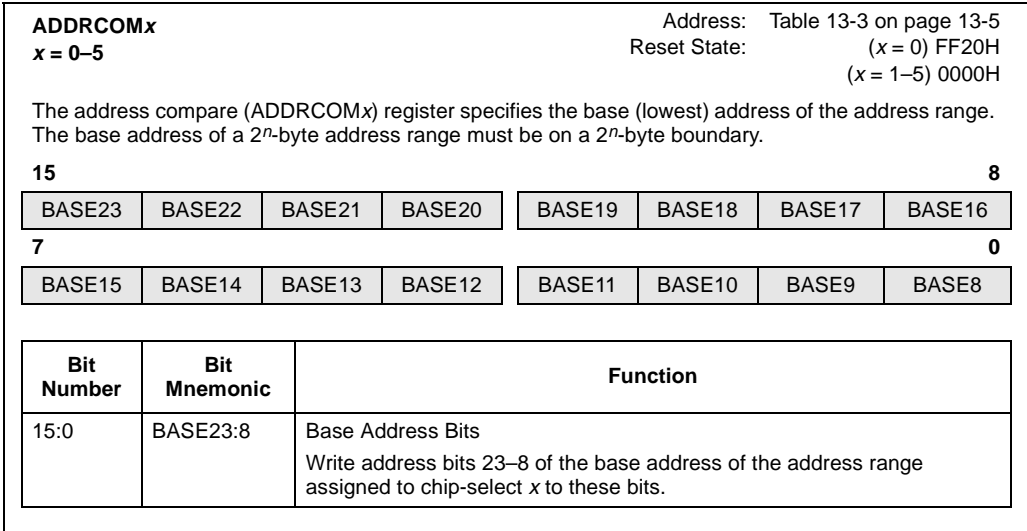
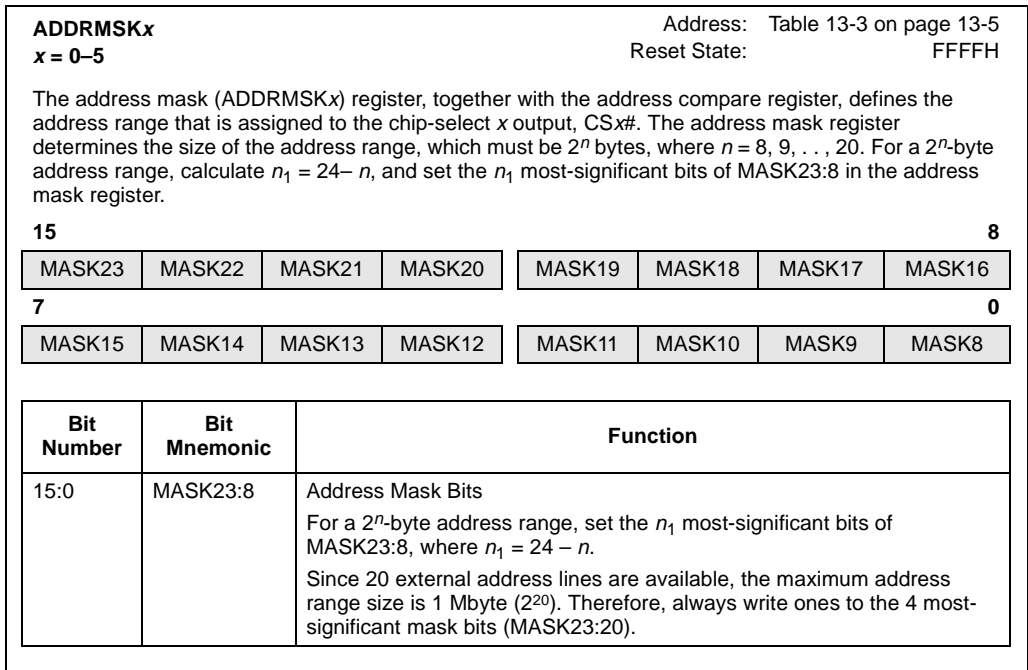

Figure 13-2. Address Compare (ADDR_{COM}_x) Registers
Figure 13-3. Address Mask (ADDRMSK_x) Registers
This section describes the ADDR_{COM}_x and ADDR_{MSK}_x registers and how to set them up for a desired address range. The ADDR_{COM}_x register (Figure 13-2) and ADDR_{MSK}_x register (Figure 13-3) control the assertion of each chip-select output. The BASE_{23:8} bits in the ADDR_{COM}_x register determine the base address of the address range. The MASK_{23:8} bits in the ADDR_{MSK}_x register determine the size of the address range.
- Place address bits 23–8 of the base address into bits BASE_{23:8} in the ADDR_{COMx} register (Figure 13-2).
- For an address range of 2ⁿ bytes, set the n₁ most-significant bits of MASK_{23:8} in the ADDR_{MSKx} register (Figure 13-3), where n₁ = 24 – n.
The location and size of an address range are specified by the ADDR_{COM}_x register and the ADDR_{MSK}_x register (see Figure 13-2 on page 13-9 and Figure 13-3 on page 13-10). The 8-Kbyte SRAM is assigned to address range 37E000–37FFFFH and uses chip-select output 2. Address bits 23–8 of the base address (37E000H) are written to the BASE_{23:8} bits in the ADDR_{COM}₂ register, which then contains 37E0H.